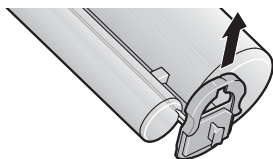

Fig. 1
1. Slide the locking mechanism upwards in order to open the cartridge. Do not remove the locking mechanism from the cartridge (Fig. 1).